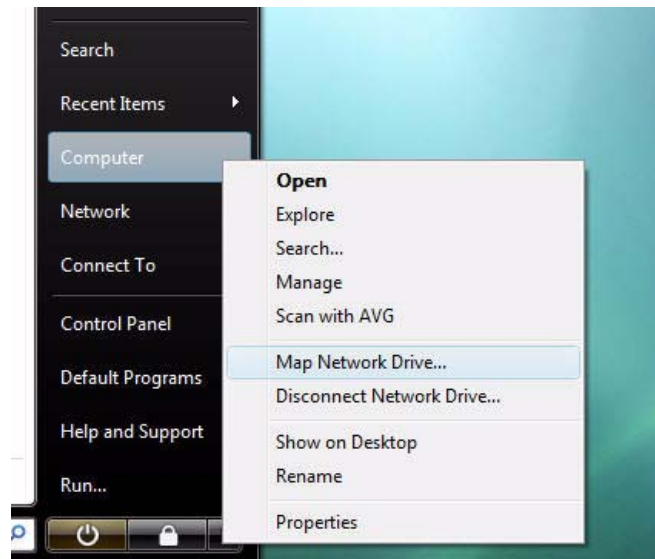

Figure D-20 Right-click Computer, Select Map Network Drive
1. Select **Start > Computer**. Right-click **Computer** and select **Map Network Drive...** as shown in Figure D-20.